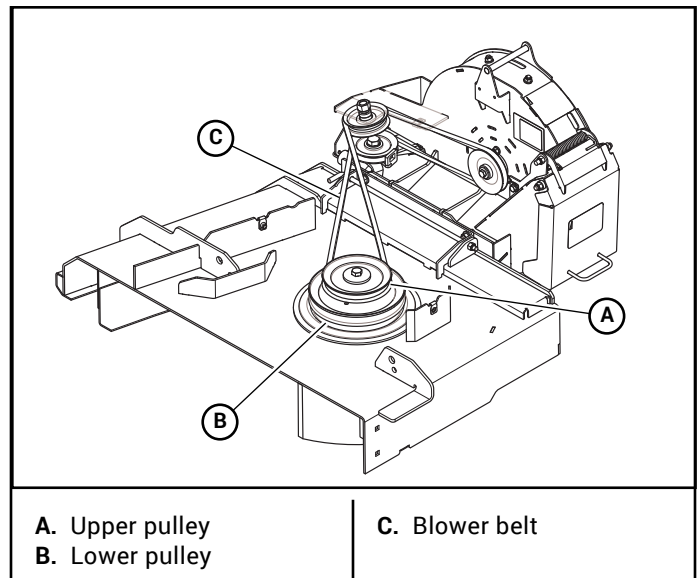

Figure 3-37
12. Install and route the blower belt around the blower pulleys and the upper pulley on the double pulley. This belt is self-tensioning. Figure 3-37